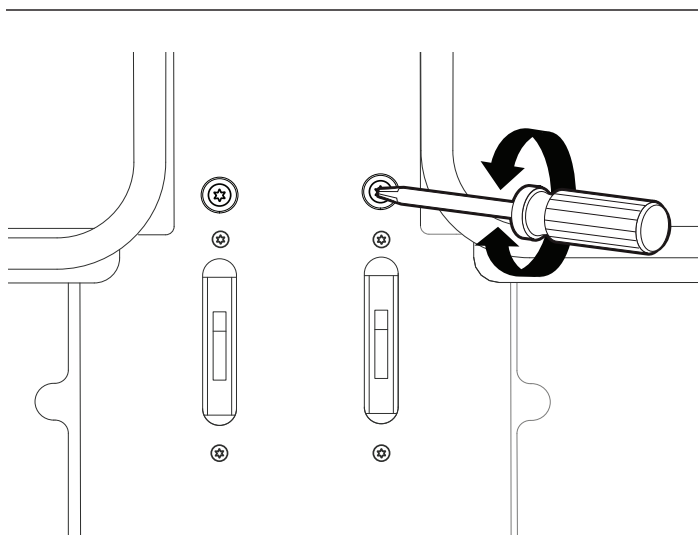

Figure 10: Hinge Receiver Adjustment Screw
4. If door or handle appears slightly tilted, you may adjust the hinge receiver by rotating the large Torx-head screw located directly above the hinge receiver with a T-20 Torx driver. Rotate each screw respective to its side and direction the door needs to be adjusted (*Figure 10*).